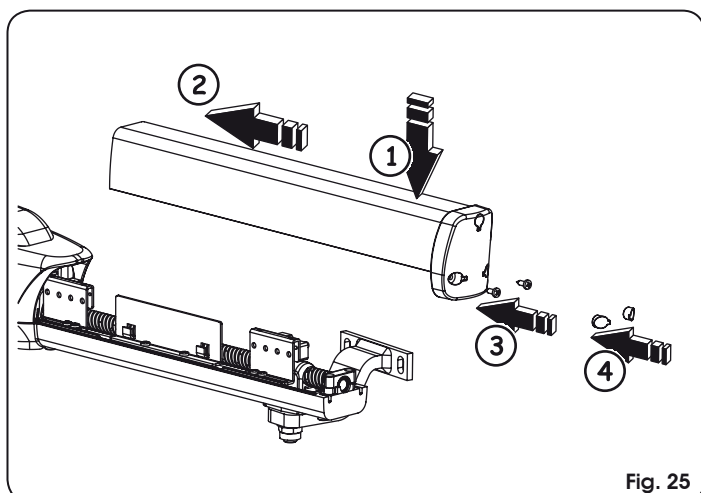

Fig. 25
6. Position again the cover by sliding it on the lower casting and make sure that it reaches the stop, Fig. 25.
7. Screw both lower screws, Fig. 25.